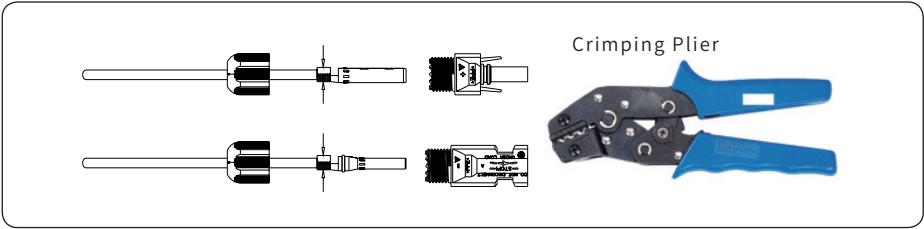

Figure 4-10
4) Insert the DC cable through the DC connector nut into the metal terminal and press the terminal with a professional crimping plier (pull back the cable with some power to check it's tight enough or not), as shown in Figure 4-10: